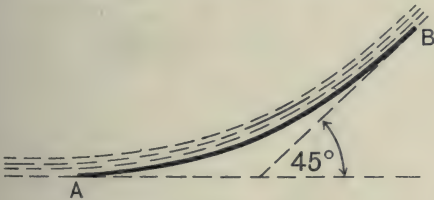

Fig. 58.
**Example (11).** Fifty cubic feet of water are flowing per minute along the fixed vane AB shewn in fig. 58 below. The speed along the vane is constant and equal to 20 feet per second. Find the magnitude and direction of the resultant force produced on the vane.